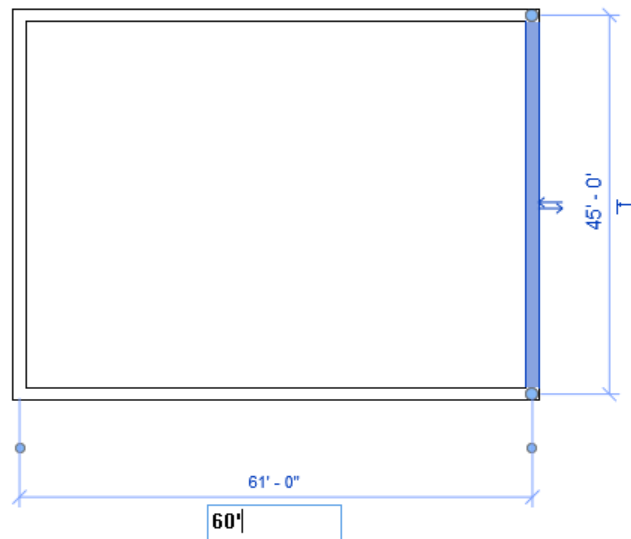

Figure 3-79 Entering horizontal dimension in the edit box
8. Click on the horizontal temporary dimension and enter **60'**(18288 mm) for the horizontal wall, as shown in Figure 3-79. Press ENTER.